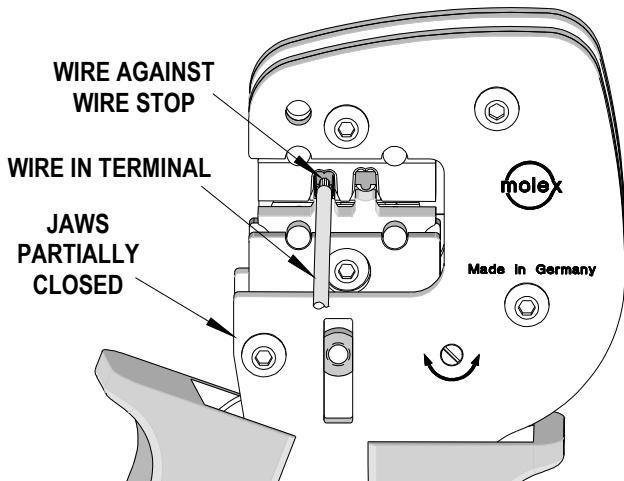

Figure 5
8. Gently touch the end of the wire against the wire stop in the locator. See Figures 5 and 6.